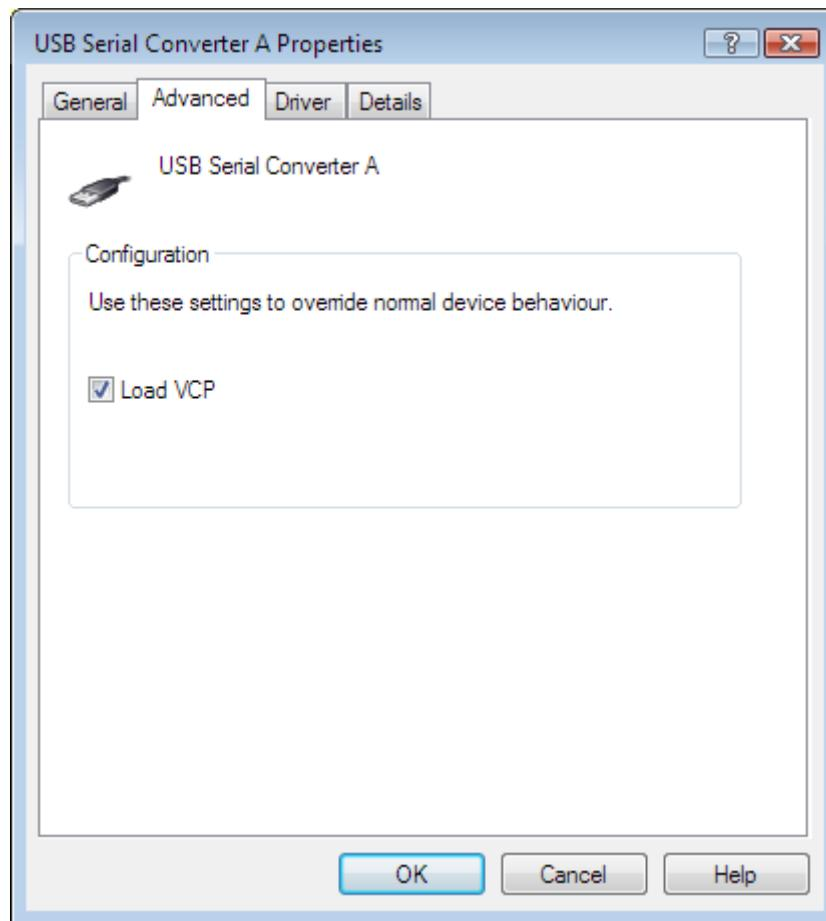

Figure 3-6 USB Serial Converter Properties
- III. Double-click on **each** *USB Serial Converter* entry and under the *General* tab, confirm that the manufacturer is FTDI. Then, under the *Advanced* tab, make sure the *Load VCP* checkbox is ticked (see Figure 3-6). If the checkbox isn't ticked, you will need to tick for each Serial converter and then unplug and re-insert the dock.